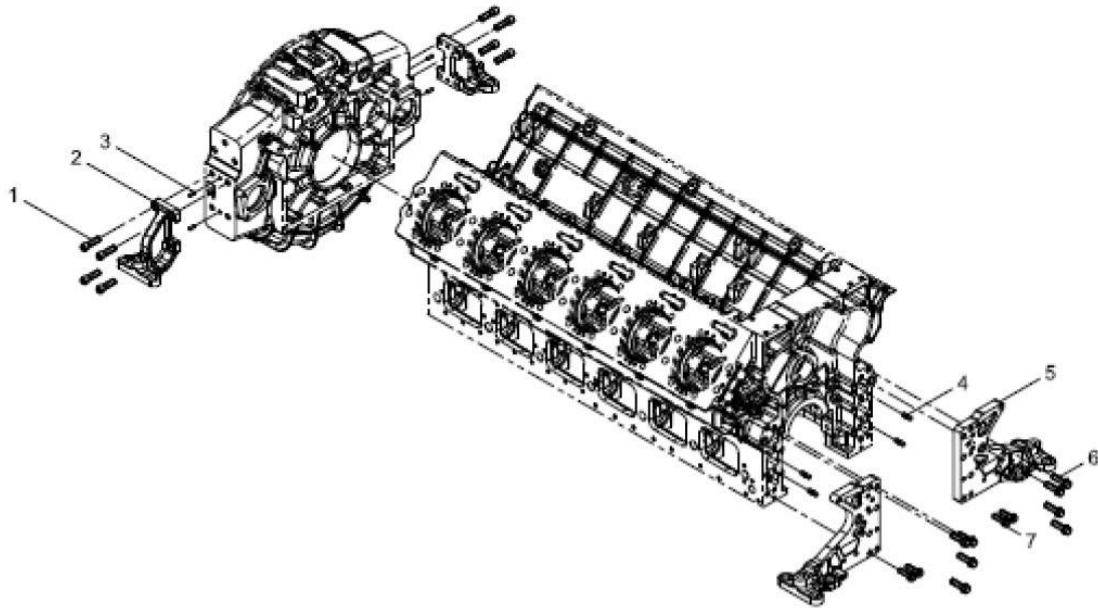

Figure 4. Engine Bracket Assembly
1. Loosen and remove bolts (Figure 4, items 1 & 6).
2. Remove engine mounts (Figure 4, items 2 & 5).
1. Place engines mounts on cylinder block and flywheel housing (Figure 4, items 2 & 5).
2. Insert and tighten bolts (Figure 4, items 1 & 6).